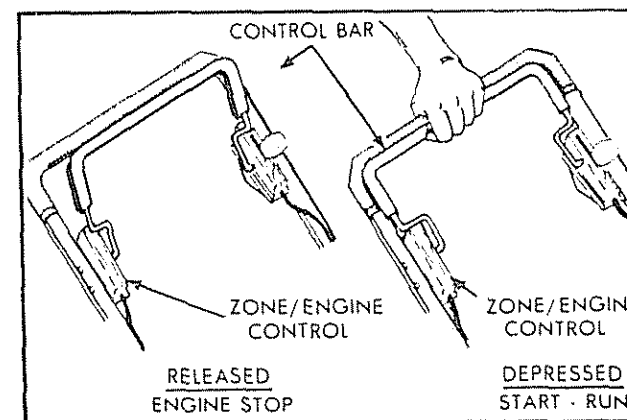

FIG. 14
8. To stop the engine, release the control bar (See Fig. 14).